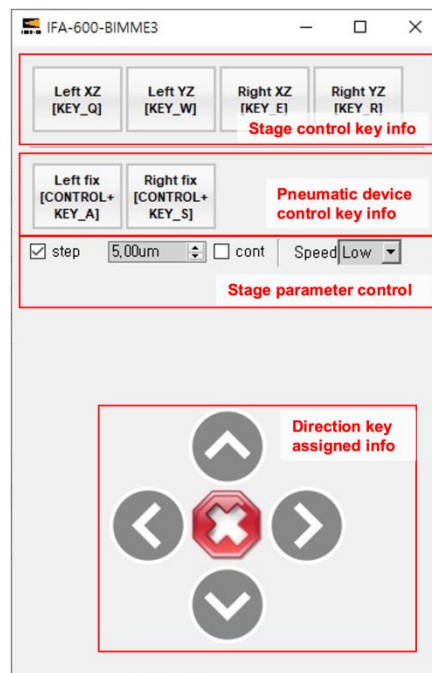

Fig. 5.9 Jog controller
- All the controls in the jog controller are highly configurable, and the configuration method is described in the appendix section. (See Fig. 5.9)